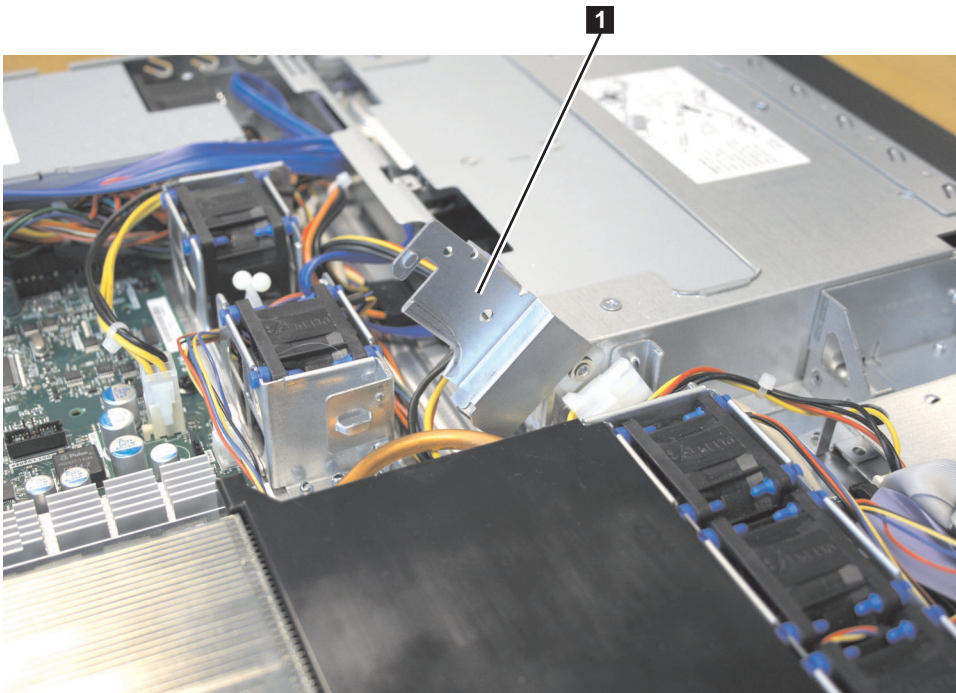

Figure 120. Air deflector for the SAN Volume Controller 2145-8A4 power supply
9. Rotate (lift) the air deflector **1** out of the way, as shown in Figure 120.